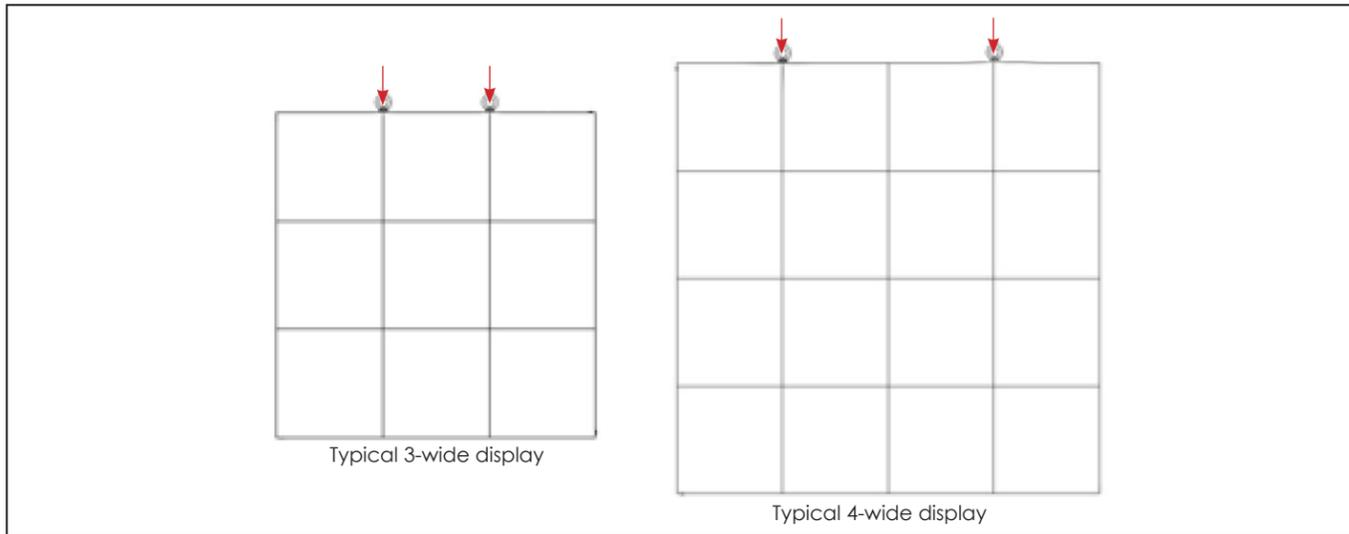

Figure 1: Lift Eye Locations
- M12 lift eyes are provided with the installation hardware. Lift eyes should be installed with the hole parallel to the display face as shown in **Figure 1**.
- Two M12 nutserts are pre-installed in the top of each display section for lifting purposes. Refer to **Figure 1** for lift eye locations.